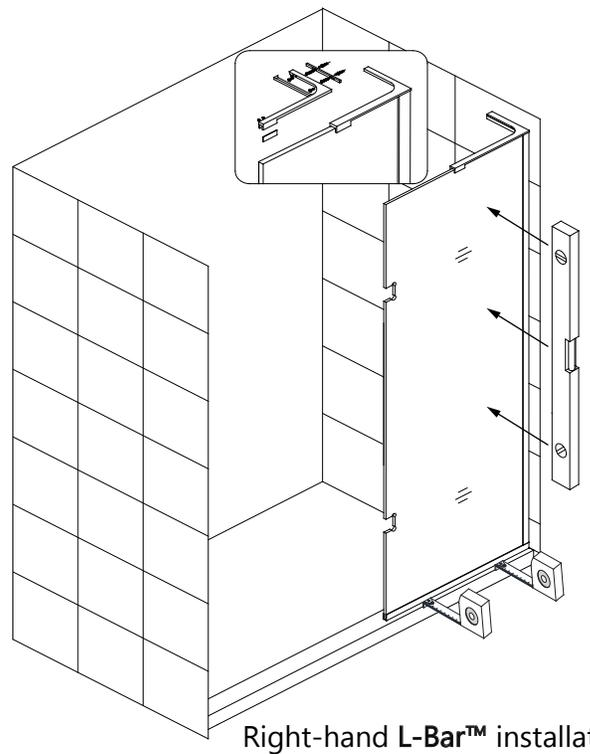

**Fig 3**
**3.** Adjust the **Panel Glass** to plumb and tighten the screws. Attach the **Decorative Cover (#04)**. Secure the **L-Bar™ (#03)** to the top of the **Panel Glass** using the PVC vinyl (either the 1mm or 0.5mm ) on the outside surface of the glass and the rubber-tipped set screws on the inside surface. **Do not overtighten! (Fig 3)**